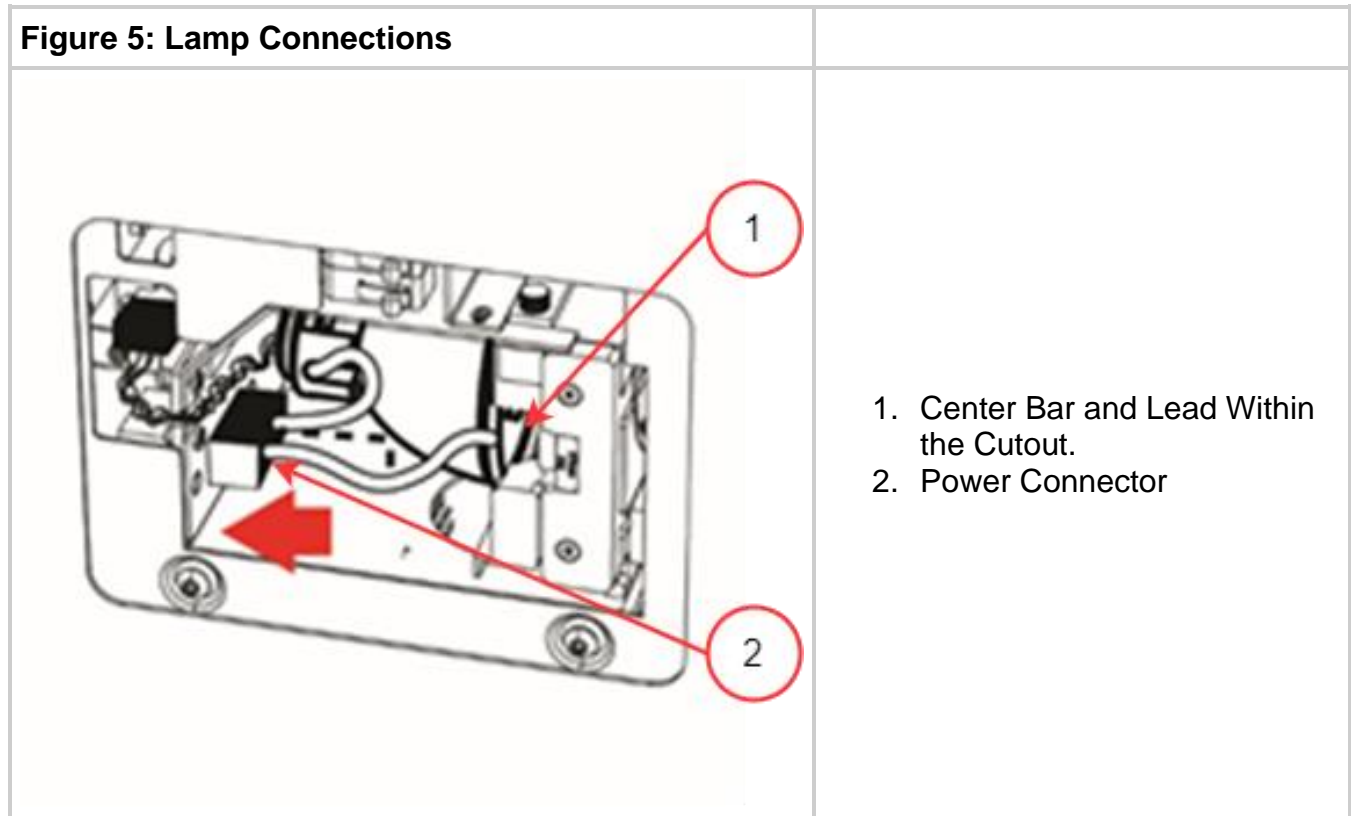

Figure 3-7 Lamp Connections -2
1. Locate power connector with two leads shown in **Figure 3-7** and connect it to the mate located on the side of the lamp-housing wall.